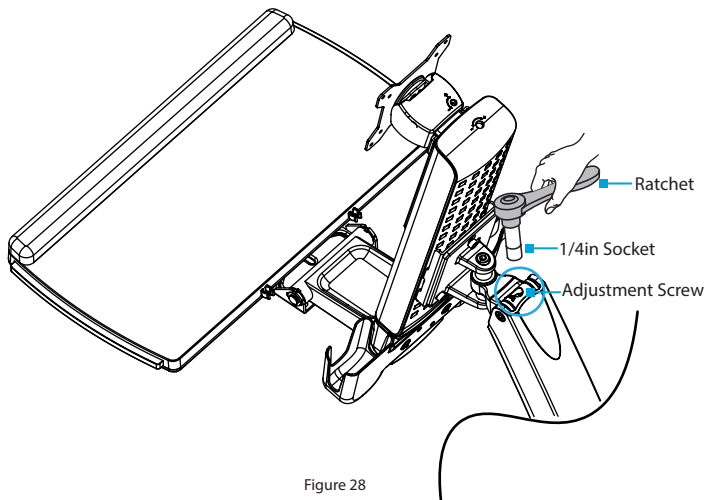

Figure 28
- If the **Workstation** doesn't remain in the set position, or it's difficult to raise or lower, use a **Ratchet** with the **1/4 inch** (8 mm) **Socket** to turn the **Screw** in the hinge of the **Monitor Arm** to adjust the tension of the **One-Touch Height Adjustment Spring**. (Figure 28)